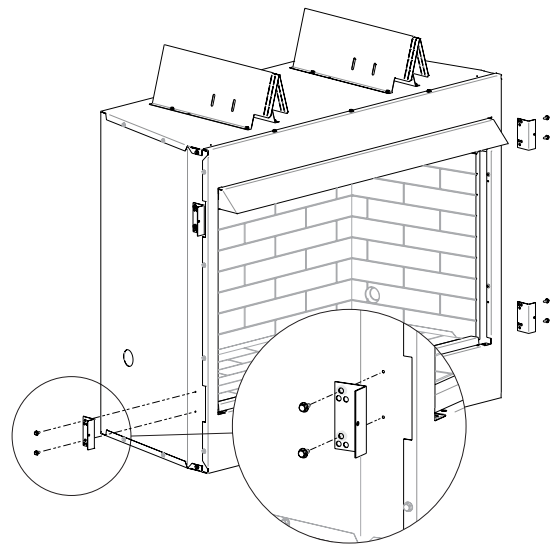

Figure 8
2. Install flanges on side of fireplace as shown using holes on side of fireplace. See Figure 8. The middle pair of holes if for the 1/2 inch non-combustible board provided with the unit.
- Install flanges on side of fireplace as shown using holes on side of firebox. See Figure 8. The middle pair of holes is for the 1/2 inch non-combustible board provided with the unit.